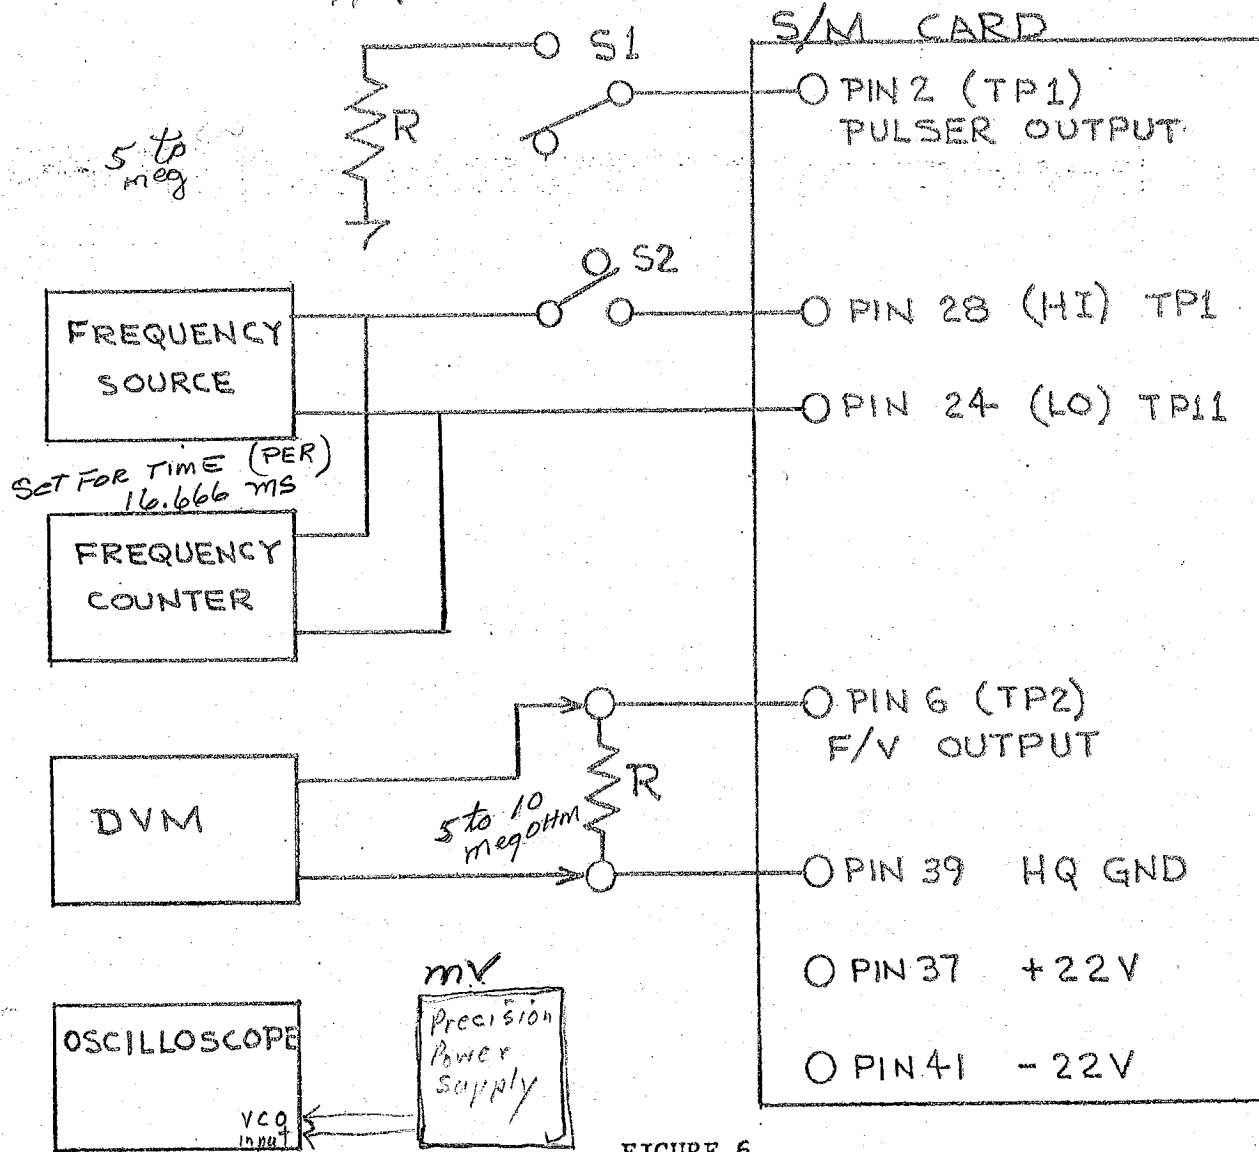

FIGURE 6
1. CONNECT S/M circuit board per test set-up shown in Fig. 6.